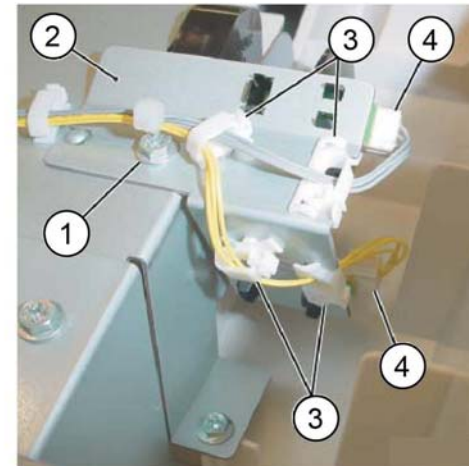

Figure 3 Stacker sensor assembly removal
9. Remove the stacker sensor assembly, Figure 3:
- a. Remove the screw (1).
- b. Remove the stacker sensor assembly (2).
- c. Release the four clamps (3).
- d. Disconnect two connectors (4).